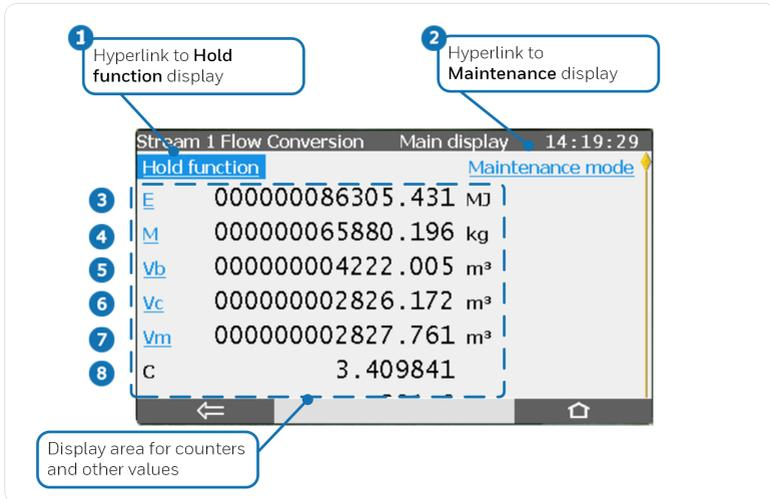

Fig. 5-6: Flow Conversion: Main display - example
- 1 vb denotes the base volume main counter. The hyperlink switches to Flow Conversion AFB's main display (⇨ Fig. 5-6: Flow Conversion: Main display - example, p. 34).